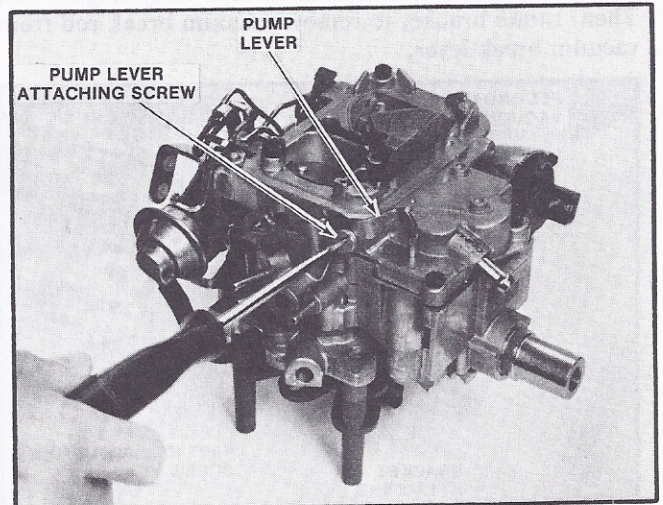

FIGURE 14 PUMP LEVER REMOVAL
1. Remove pump lever retaining screw from air horn (Figure 14). Then rotate pump lever to remove from pump rod.